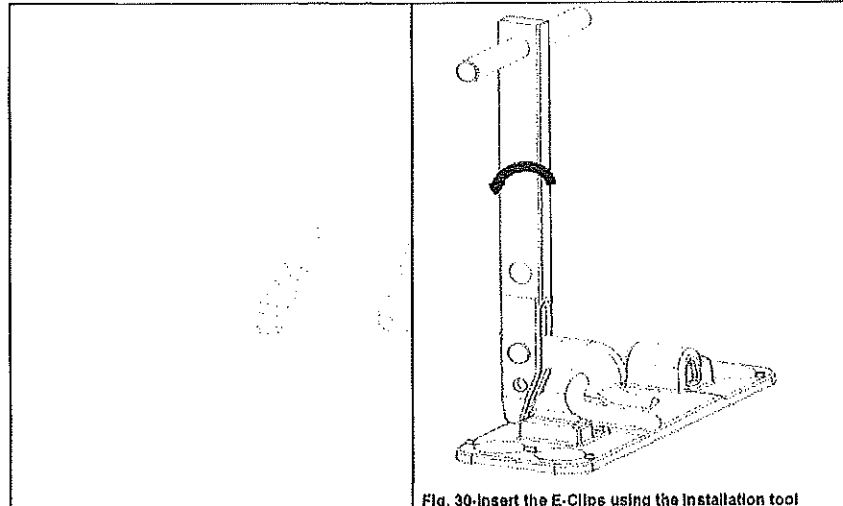

Fig. 30-Insert the E-Clips using the installation tool
2. Place the hook on the outside of the front arch of the clip, Fig. 30.